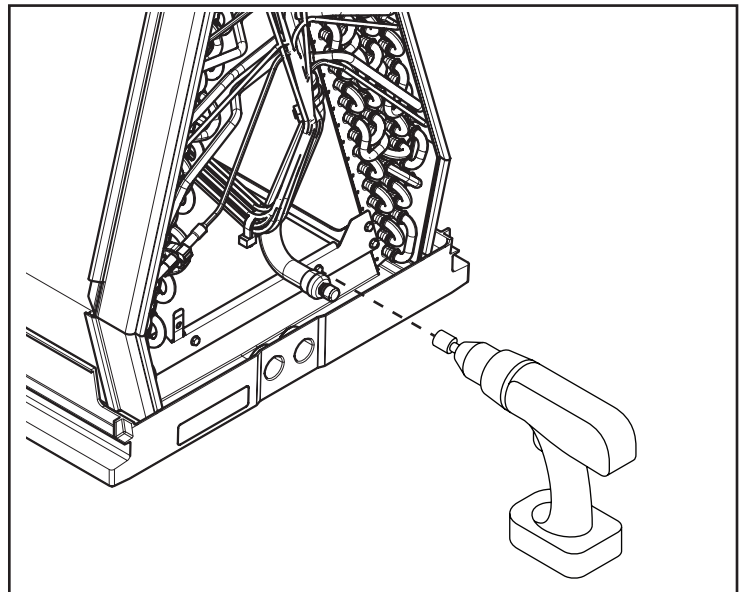

Figure 13 – Attach Downflow Drain Pan
2. Set the replacement coil on top of the downflow drain pan assembly. Attach the downflow drain pan assembly to the two bottom coil brackets using four screws as shown in Figure 13.